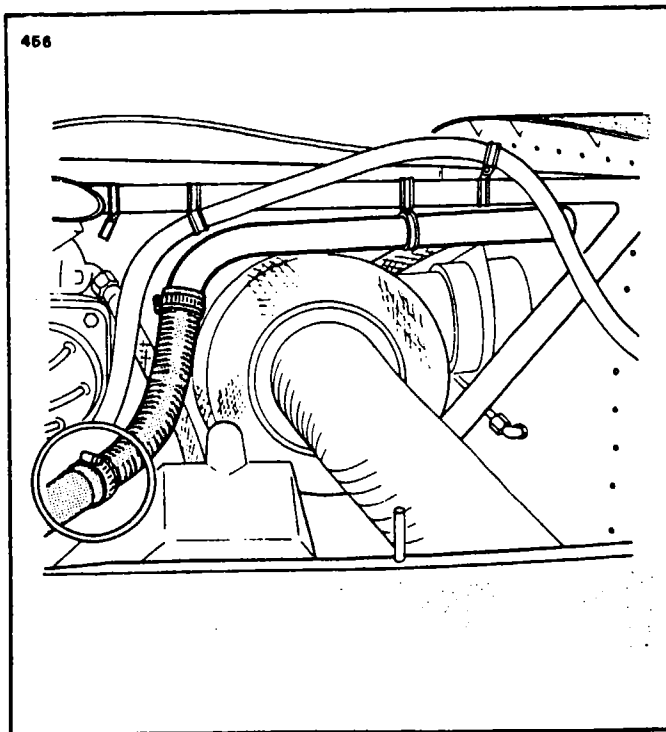

Figure 13-34c. Instrument Air Hookup
1. Disconnect the pneumatic line by removing the hose from the elbow on the pneumatic pump on the left engine and connect the instrument air line from the test unit as shown in Figure 13-34c.